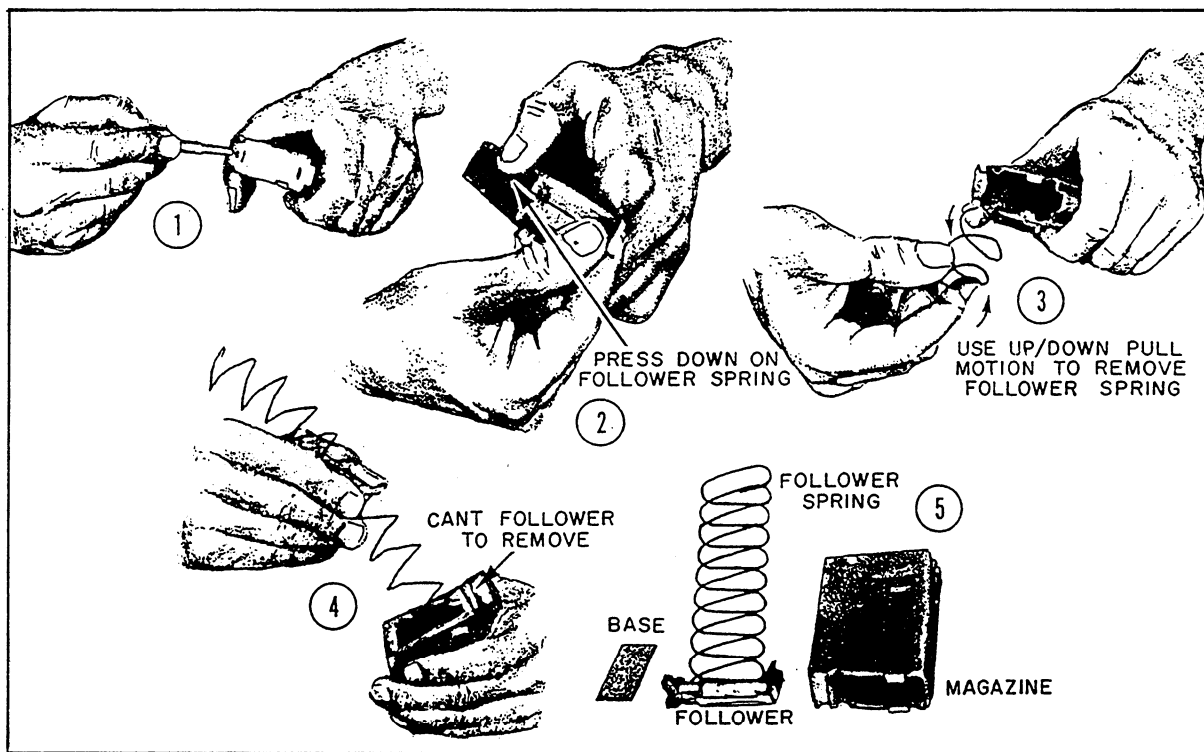

Figure 3-28.—Disassembly of the 20-round magazine.
5. **AMMUNITION MAGAZINES.** After removing all cartridges from the magazine, depress the spring steel lock band on the bottom of the magazine, using the nose of a cartridge (fig. 3-28, view 1). Slide the base until it is free of the tabs, and remove it from the magazine body (fig. 3-28, view 2). Remove the magazine spring and follower (fig. 3-28, view 3), but do not remove the follower from the spring (fig. 3-28, views 4 and 5). Clean the exterior and interior of the magazine with a dry rag or swab. Apply a light coat of the recommended lubricant to the magazine spring only; otherwise, keep the magazine dry. You assemble the magazine in reverse order and test it to ensure that the follower is free to move without binding. If the magazine and the ammunition in it gets wet, be sure to wipe them dry as soon as possible. When left wet, both the magazine and the ammunition can become corroded and are dangerous to use. Remember not to use oil or grease on any cartridge. If you do this, injurious abrasives can collect in the weapon or produce excessive and hazardous